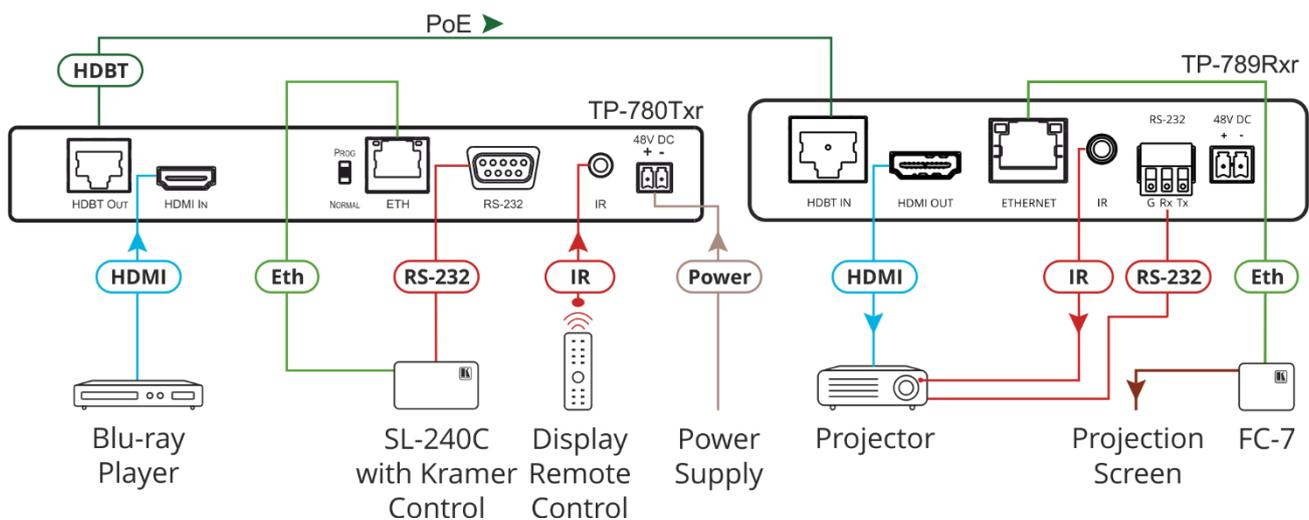

Figure 6: Connecting TP-789R/TP-789Rxr as PoE Acceptor
To connect the TP-789R/TP-789Rxr as illustrated in the example in Figure 6:
2. Connect the HDMI OUT Connector (8) on the TP-789R/TP-789Rxr rear panel to the HDMI acceptor (for example, a projector).
- a. Connect the RS-232 Terminal Block Connector (11) on the TP-789R/TP-789Rxr rear panel to the HDMI acceptor.
- b. Connect the IR 3.5mm Mini Jack Connector (10) on the TP-789R/TP-789Rxr rear panel to the HDMI acceptor via an IR emitter cable.
6. Connect the HDBT OUT RJ-45 Connector on the **TP-780Txr** rear panel to the HDBT IN RJ-45 Connector (7) on the **TP-789R/TP-789Rxr** rear panel.
7. Connect a LAN-enabled device (for example, **FC-7** control gateway) to the Ethernet Connector (9) on the **TP-789Rxr** rear panel.
8. Connect the power adapter to the 48V DC Power Terminal Block on **TP-780Txr** rear panel and to the mains electricity (not shown in Figure 6).